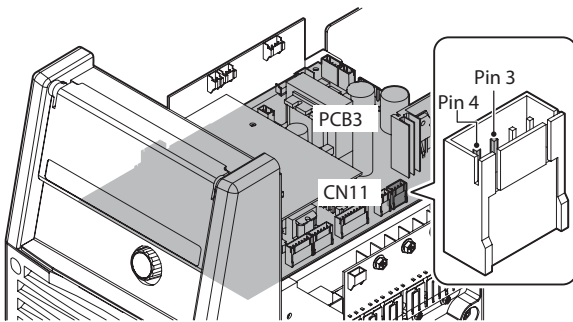

Figure 10-13: Verification of the SOL1
- 1) Verify the voltage between the PIN 3 (Positive [+]) and PIN 4 (Negative [-]) of connector CN11 on PCB3 (WK-5548) while you press the torch switch while in TIG Mode. (The capacity of the voltmeter should be more than 50VDC.) The location of connector CN11 of PCB3 (WK- 5548) is indicated in Figure 10-13. When you measure the above voltage, do not remove the connector. Conduct the measurement while the connector plug and receptacle are still connected.